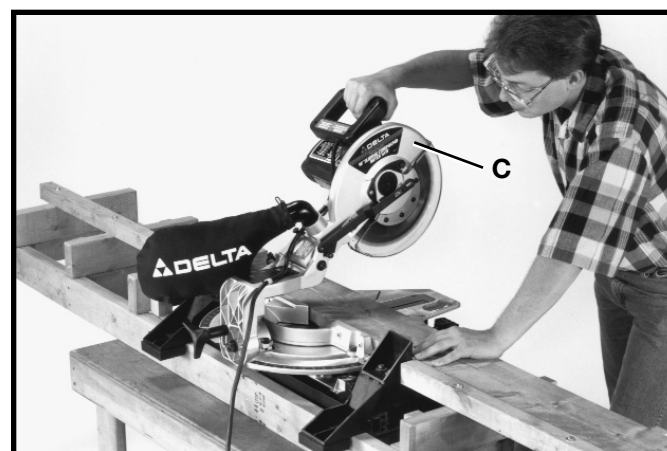

Fig. 74
2. Pull the cuttinghead (C) Fig. 74, toward you, with the cuttinghead in the up position. After the cuttinghead is pulled toward you, compress switch trigger to turn the saw on, as shown.